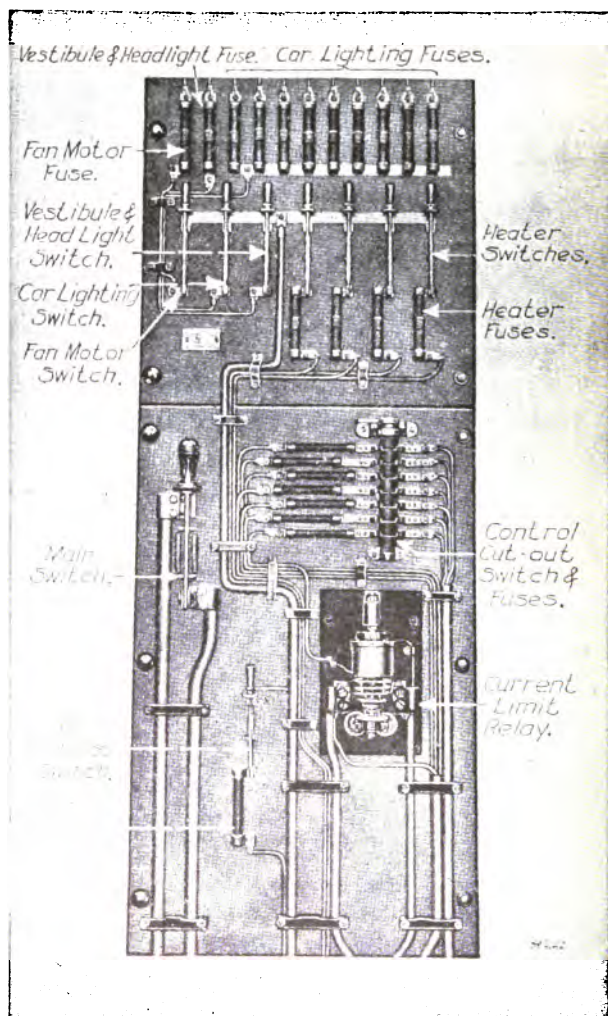

Fig. 502. Switchboard—New York Central Equipment.
13. THE MAIN SWITCH is a knife blade quick break switch, located on the panel, and is used to cut off the supply of current through the main fuse, circuit breaker, contactors and motors. This switch should not be opened while the motors are taking current, except in an emergency. It should, however, always be opened before the main fuse, circuit breaker or contactors are examined. Fig. 502.
28. THE CONTROL CUT-OUT SWITCH (Fig. 502) is provided for the purpose of disconnecting the control circuits of the contactors, reverser and circuit breakers on a particular car from the train cable. This switch is located on the panel board at one end of the car where it can be easily reached.
30. CONTROL FUSES (Fig. 502) are placed in the circuits between cut-out switches and operating coils of contactors, reverser and circuit breaker on each car for providing suitable protection. These fuses are located on the panel switchboard in an accessible place.